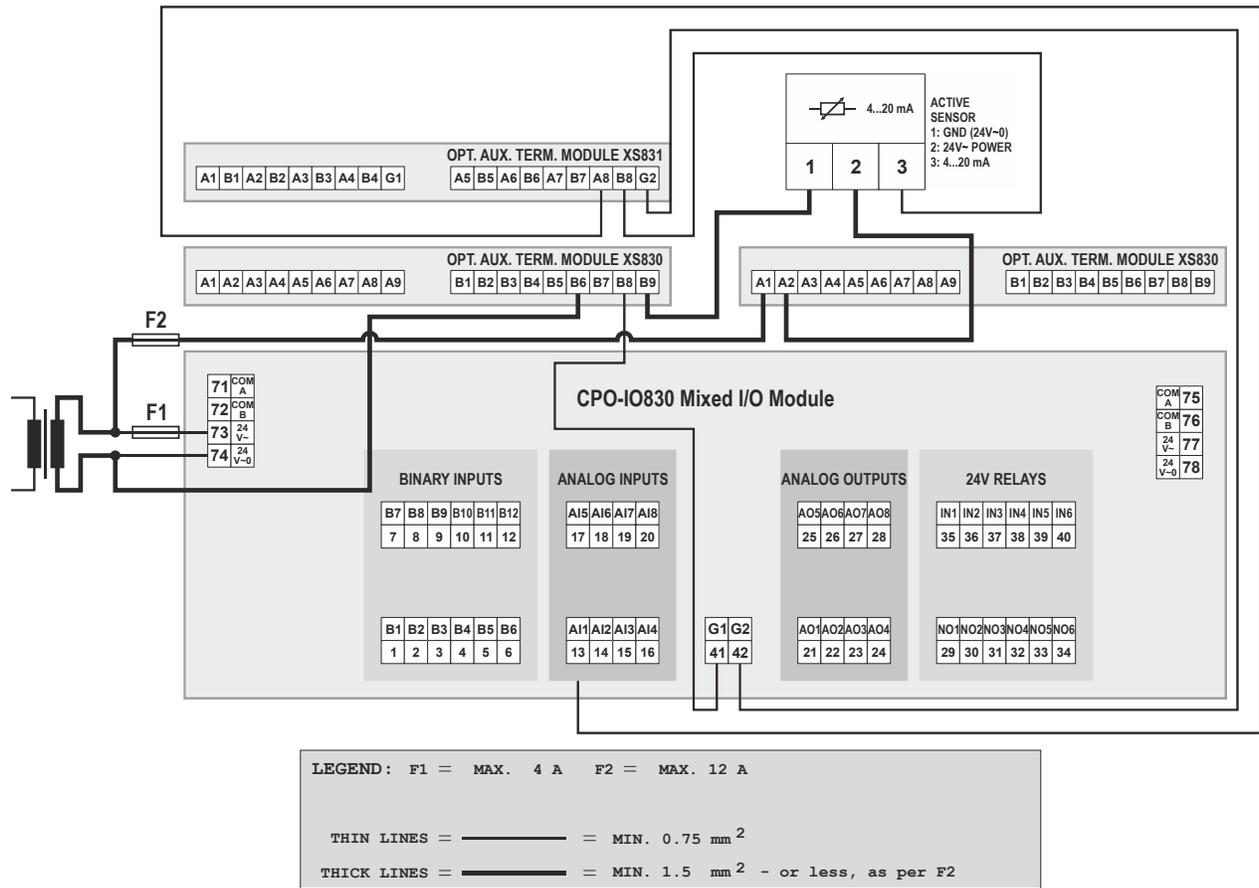

Fig. 64. CPO-IO830 Connection example (for current inputs)
- Two groups of four pairs of push-in terminals (A1B1, A2B2, ... A8B8, each with a 499Ω resistor) for converting 0...20 mA signals (max. load per resistor = 25 mA) into 0...10 VDC signals, and one push-in ground terminal per group. See also Fig. 63 and Fig. 64.